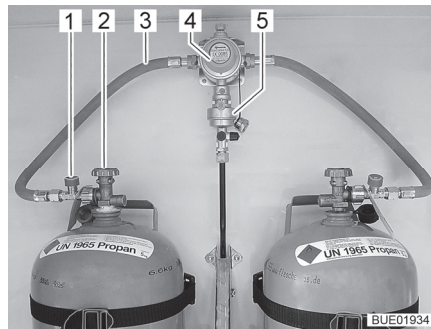
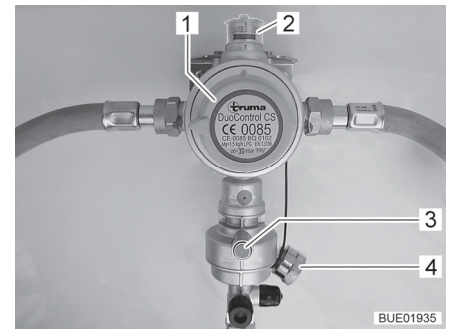
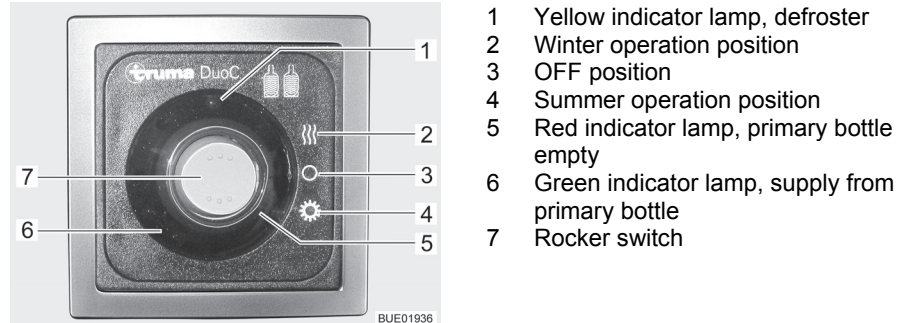

Fig. 122 Gas bottles with DuoControl
Fig. 123 DuoControl regulating system
Fig. 124 Operating unit (DuoControl)
The DuoControl regulating system consists of a reversing valve (Fig. 122,4) and a crash sensor (Fig. 122,5). The DuoControl regulating system is installed between the gas tubes (Fig. 122,3) with hose break guard (Fig. 122,1). The knob (Fig. 123,1) on the reversing valve is used to select which of the gas bottles is to be used as primary bottle and which is to be used as reserve bottle.
The status of the gas supply is indicated in the inspection window (Fig. 123,2):
The operation with only one gas bottle is allowed but in this case the open connection must be closed with a blind cover (Fig. 123,4).
The crash sensor blocks the gas supply in the event of a significant impact (e.g. accident). The crash sensor is put into operation with the green reset button (Fig. 123,3).
The hose break guard (Fig. 122,1) blocks the gas flow if the connected hose breaks. The hose break guard must be activated by pressing the green button.
Operating unit At the operating unit (Fig. 124), the gas supply via the DuoControl regulating system is switched on and off. The regulator taps (Fig. 122,2) of the gas bottles and the gas isolator taps of the devices must be opened manually.
Summer and winter operation are switched with the rocker switch (Fig. 124,7) on the operating unit.
The two indicator lamps on the operating unit indicate the level of the primary bottle. When the green indicator lamp (Fig. 124,6) is lit, the primary bottle is sufficiently filled. When the red indicator lamp (Fig. 124,5) illuminates, the primary bottle is empty. In this case, the reserve bottle is used for the gas supply.
- Use the knob (Fig. 123,1) on the reversing valve to select the gas bottle which is to be the primary source of gas (primary bottle). Always turn the knob as far as it will go.
- Open regulator taps (Fig. 122,2) on the gas bottles.
- Press the green button of the hose break guard (Fig. 122,1). The green marking is shown in the inspection window (Fig. 123,2).
- Switch on the DuoControl regulating system at the operating unit (Fig. 124). To do so, set the rocker switch (Fig. 124,7) to winter operation (Fig. 124,2) or to summer operation (Fig. 124,4). The yellow defroster indicator lamp (Fig. 124,1) is lit when winter operation is selected.
- Set the rocker switch (Fig. 124,7) to the OFF position (Fig. 124,3). The indicator lamps go out.
- Close regulator taps (Fig. 122,2) on the gas bottles.
If the green indicator lamp (Fig. 124,6) goes out during operation and the red indicator lamp (Fig. 124,5) lights up, the primary bottle is empty and must be changed. The red marking is shown in the inspection window (Fig. 123,2). The reserve bottle continues supplying the gas appliances with gas.
- Turn the knob (Fig. 123,1) a half turn in the direction of the currently used gas bottle. In this way, this gas bottle is the primary bottle now, and the empty gas bottle becomes the reserve bottle. The marking in the inspection window (Fig. 123,2) changes from red to green.
- Close regulator tap (Fig. 122,2) on the empty gas bottle. Pay attention to the direction of the arrow.
- Press the green button of the hose break guard (Fig. 122,1).